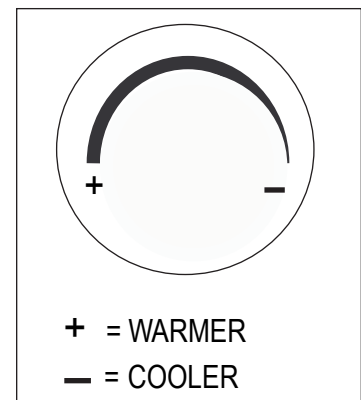

Figure 18
2. To make the beverage dispenser warmer, turn the temperature adjustor to the + direction. To make the dispenser cooler, turn the temperature adjustor to the - direction (See Figure 18).